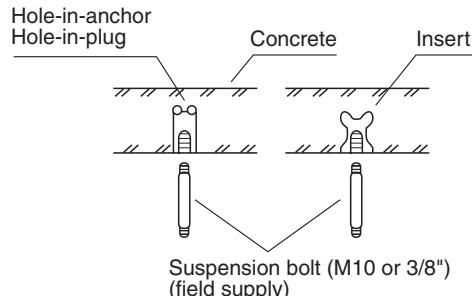

Fig. 1-69
- Insert suspension bolts as shown in Fig. 1-69
- (2) Screw in the suspension bolts allowing them to protrude from the ceiling as shown in Fig. 1-69. (Cut the ceiling material, if necessary.)